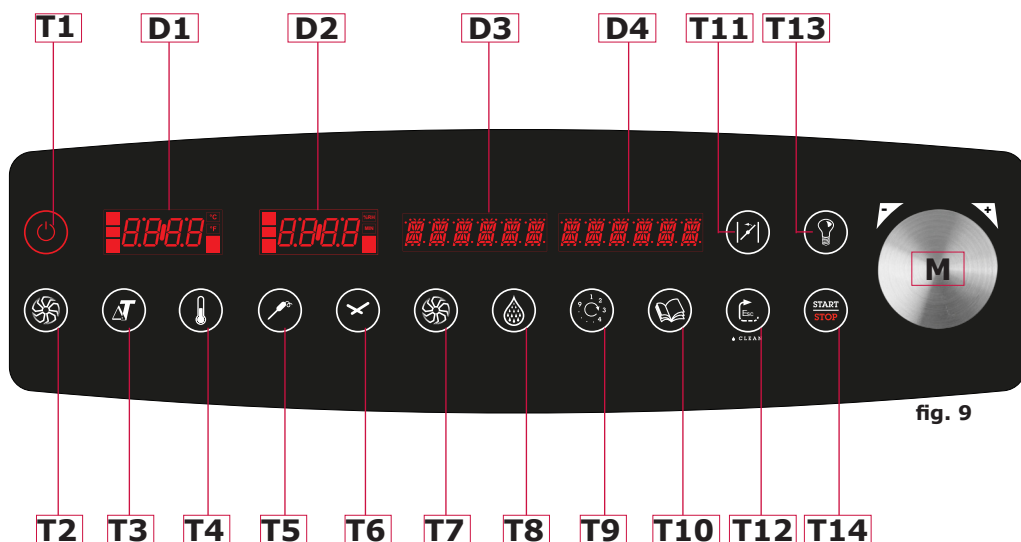

fig. 9
Switch the oven on using the master switch **T1 fig. 9** (following page)
Press key **T7 (fig. 9)** "Start/Stop".
- By pressing the relevant key **T5 (fig. 9)** the cooking chamber lights switch on and if not switched off by pressing the key again, they switch off automatically after 45 seconds.
By pressing the **T1** key for 3 seconds (**fig. 9**) the oven can be switched on and off. On switch-on the oven is in Stand-by mode while waiting for the cooking parameters to be entered.